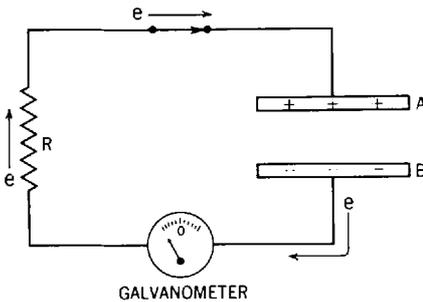

Fig. 34-4. Capacitor discharging through resistor (R).
**Discharging the Capacitor.** Since we have no closed circuit, no current flows even though the capacitor is still charged. If we now complete our circuit by connecting in a resistor in the place of the battery as in Figure 34-4, electrons stream from plate B where